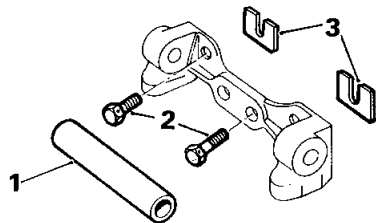

Fig. 28
If the inner fulcrum mounting bracket is to be removed, tap the spacing tube (1, Fig. 28) from between the lugs of the mounting bracket.
Remove the locking wire from the setscrews (2, Fig. 28) securing the mounting bracket to the final drive unit.
**NOTE:** Make a record of the number and position of the shims (3, Fig. 28) at each attachment point.